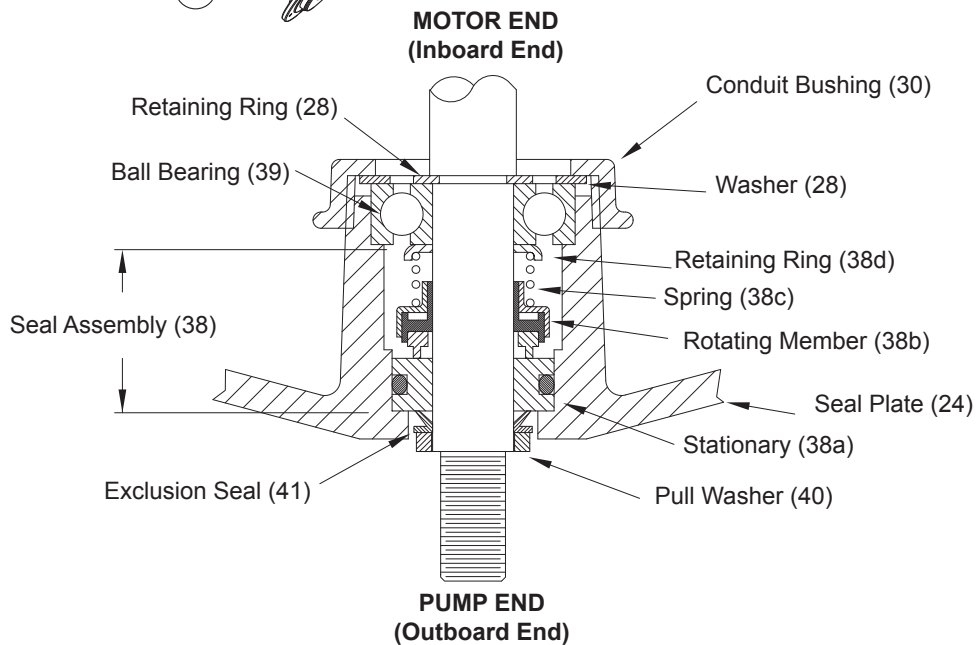

FIGURE 5
Seal - Remove rotating member (38a), spring (38c) and retaining ring (38d) from shaft. (See Figure 5). Examine all seal parts and especially contact faces. Inspect seal for signs of wear such as uneven wear pattern on stationary members, chips and scratches on either seal face. **DO NOT** interchange seal components, replace the entire shaft seal (38). If replacing seal, remove stationary (38a) from seal plate (24) by prying out with flat screwdriver.
Power - Refill the cooling oil as outlined in paragraph F-1.3. Make wire connections as outlined in paragraph F-3.3. Insert female end of cord plug into housing bore aligning timing mark with hole in terminal block (15) (see Figure 5). Compress cord plug with compression flange (10a) by tightening cap screws (4) into the motor housing (2). Torque to 132 in-lbs.